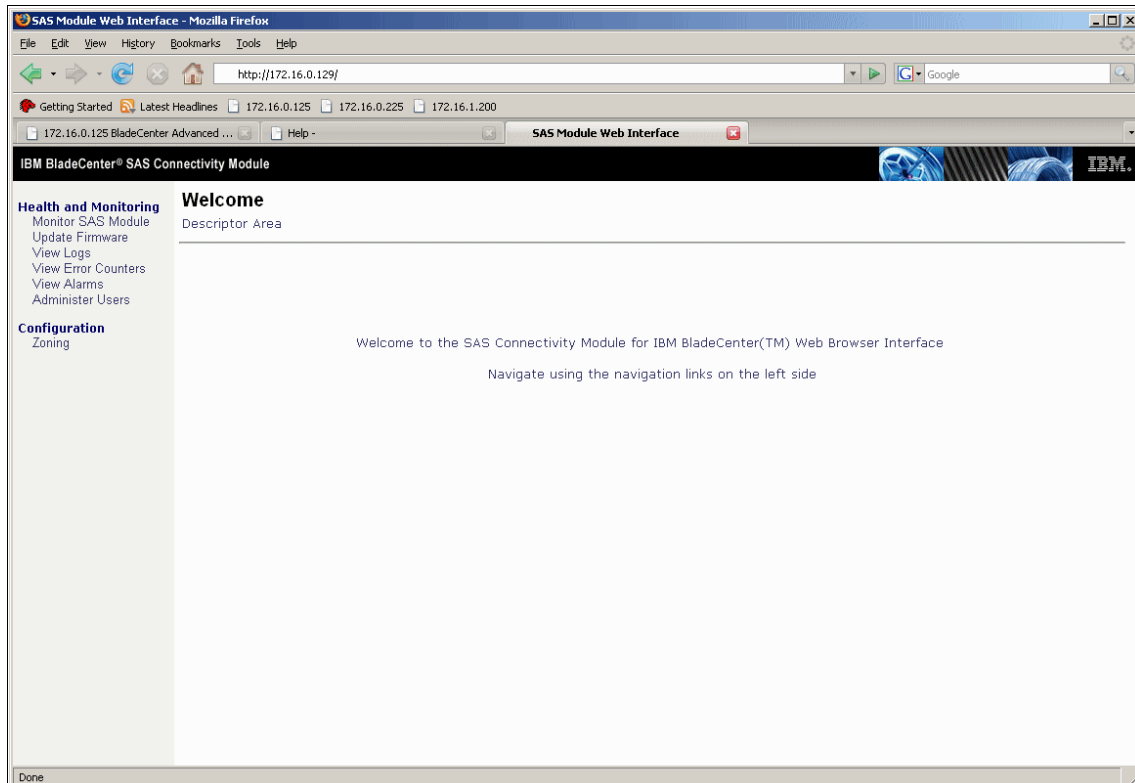

Figure 7-5 SAS connection module welcome
1. Enter **User ID** and **Password** of the account that has access to the SAS module and click **Login**. An example of the next screen that appears in the SAS module welcome screen is provided in Figure 7-5 on page 255.